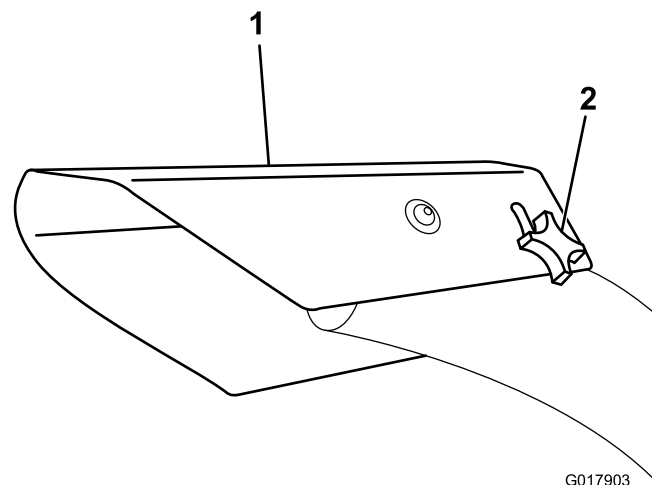

Figure 11
1. Loosen the deflector knob and rotate the chute into the desired position (Figure 11).